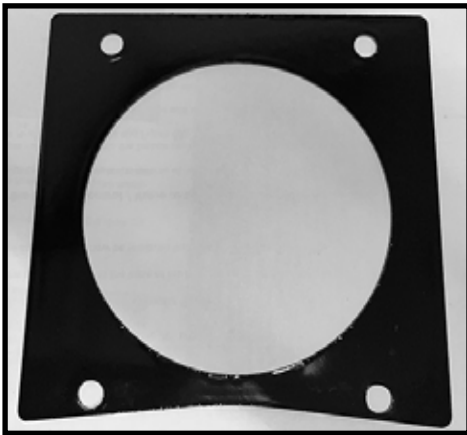

Figure 45: Curvature of end cover plate.
6. Ensure that the curved edges of the end covers are placed against the rear plate (Figure 45).